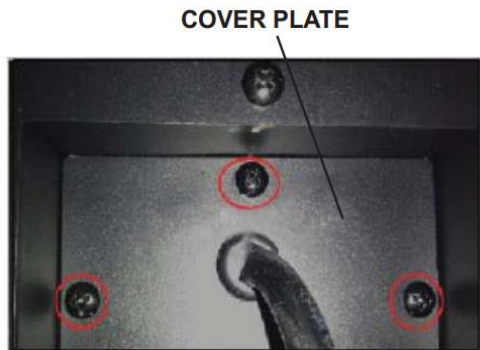

Fig 5-1
- A. Remove the cover plate from the right side bottom of the appliance by removing the three screws, as shown above. **(Fig 5-1)**
- E. Reinstall the cover plate using the three screws, as shown in **Fig 5-1**.